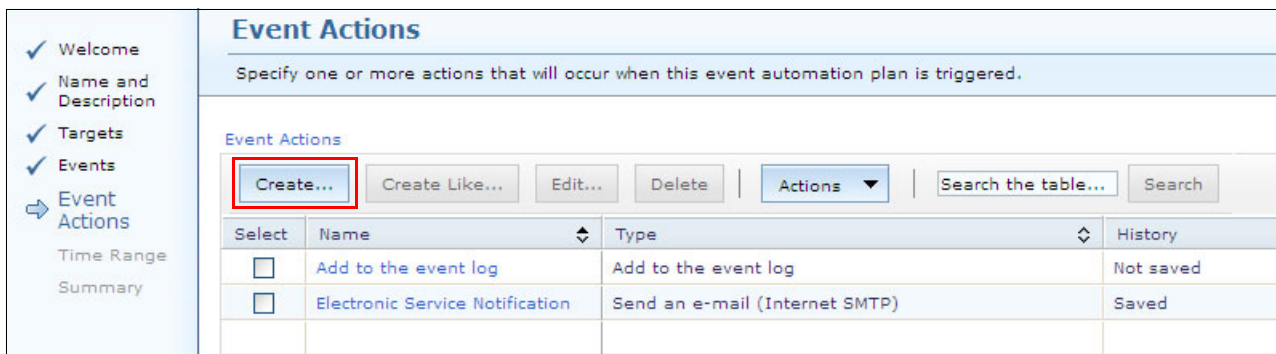

Figure 11-71 Create Event Automation Plan Wizard Event Actions window
6. Click **Create** for a new event action, as shown in Figure 11-71.